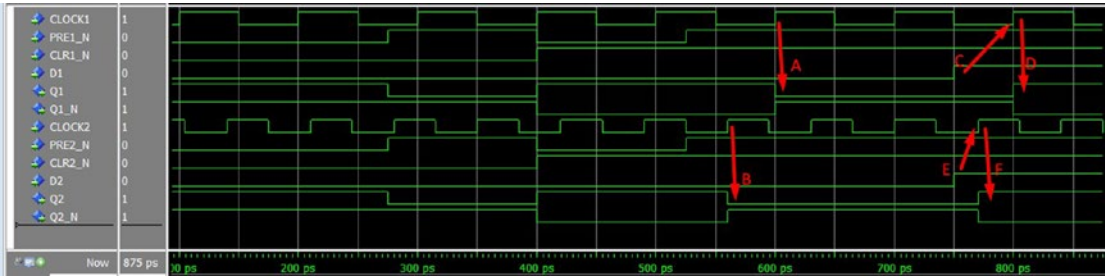

Figure 10-3. 7474 FPGA Timing diagram
In Figure 10-3, the two flip-flops in the `d_flipflop_7474_example` are driven by the same input except `CLOCK1` and `CLOCK2` are different. The red arrow (A) in the figure shows that `Q1` and `Q1_N` change on the rising edge of `CLOCK1`. `Q2` and `Q2_N` change on the rising edge of `CLOCK2` (red arrow B). This dual flip-flop design shows that sequential statements ONLY execute when the IF condition is true (which is the clock input). The Q output also depends on the D input. `Q1` and `Q1_N` follow the `D1` input on the rising edge of `CLOCK1` (red arrows C and D). `Q2` and `Q2_N` follow the `D2` input on the rising edge of `CLOCK2` (red arrows E and F).